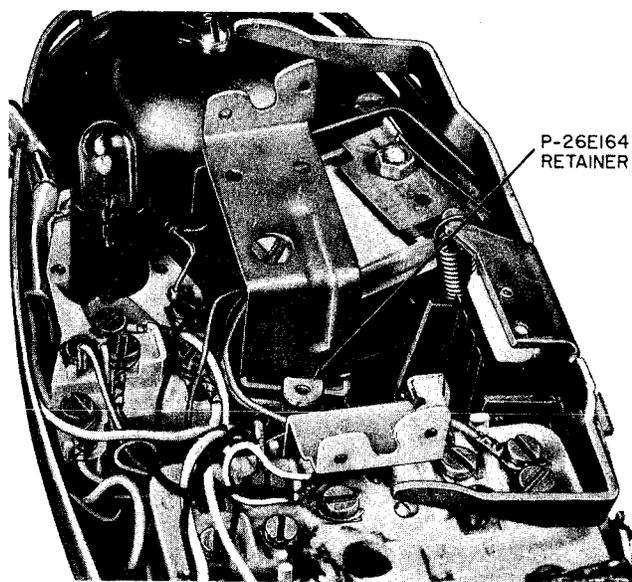
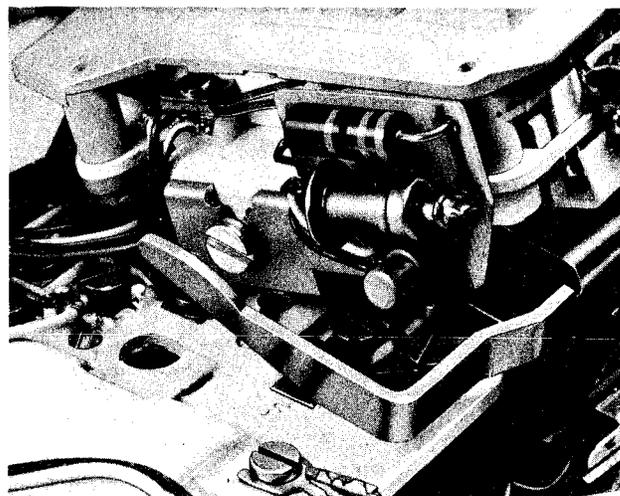

Fig. 7 — Installing Terminal Board Retainer in PRINCESS Telephone Set
Fig. 8 — Polarity Guard Mounted in PRINCESS Telephone Set
(1) Remove housing; loosen dial mounting screws and move the dial to one side without disconnecting the dial leads.
(2) Insert the P-26E164 retainer in left-hand dial mounting bracket (Fig. 7).
(3) Insert tabs of P-21F675 terminal board into notches in right-hand dial mounting bracket and secure to retainer using P-43A392 screw.
(4) Connect polarity guard in accordance with connections shown in appropriate connection section.
(5) Reinstall dial on mounting bracket, securing the P-90D054 guard assembly mounting bracket under the right-hand dial mounting screw (Fig. 8).
(6) Reinstall housing.